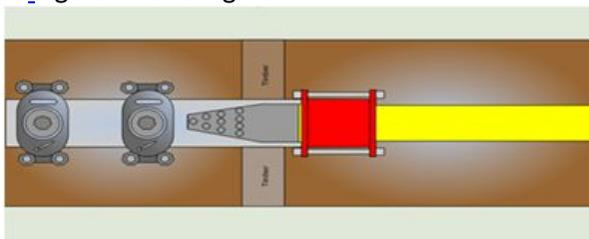
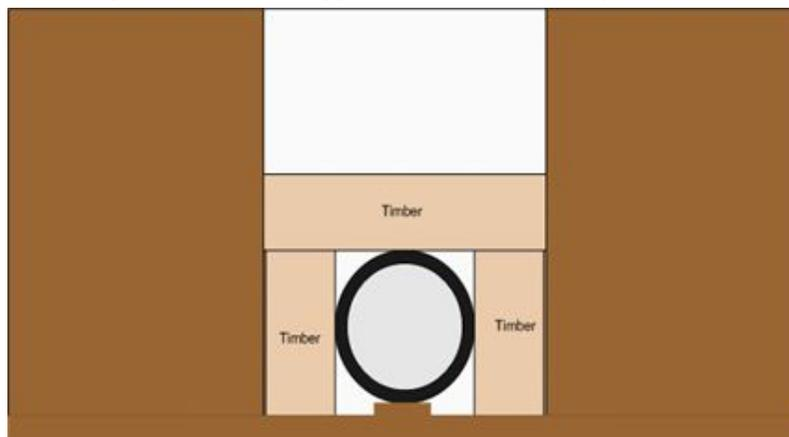

Figure 11 - Timber Support for the Host Main (plan view)
Figure 12- Timber Sport for the Host Main (side view)
2. Support the host main with timber and wedges against the side of the trench to prevent vertical or lateral movement on the host main during insertion. See Figure 11 and Figure 12.